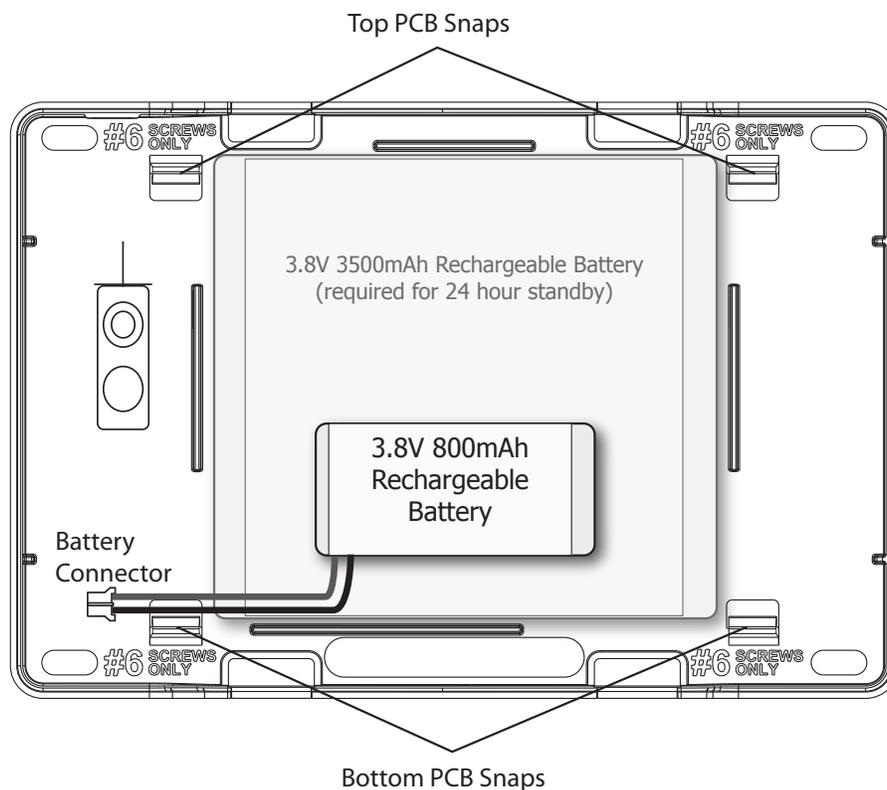

Figure 3: Standby Battery Replacement
The XTLplus 800mAh rechargeable battery is used to provide 4 hours of standby battery power when DC power is not available. The battery is intended for backup power only and not to operate the panel on a daily basis. If the battery is low, or not plugged into the BAT battery connector, a low battery condition is indicated by the panel. If 24 hour standby battery power is needed, connect the 3500mAh battery. See Figure 3.
5. Place the new battery into the XTLplus housing base with the battery wires directed toward the bottom left corner. See Figure 3.